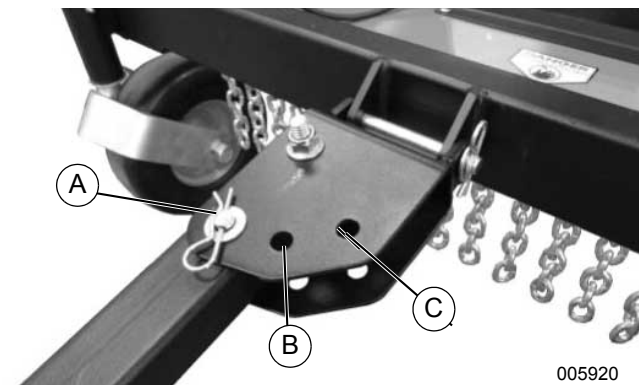

Figure 3-9. Offsetting Tow Bar
1. See Figure 3-9. Remove hair pin, washer, and clevis pin (A) securing tow bar.